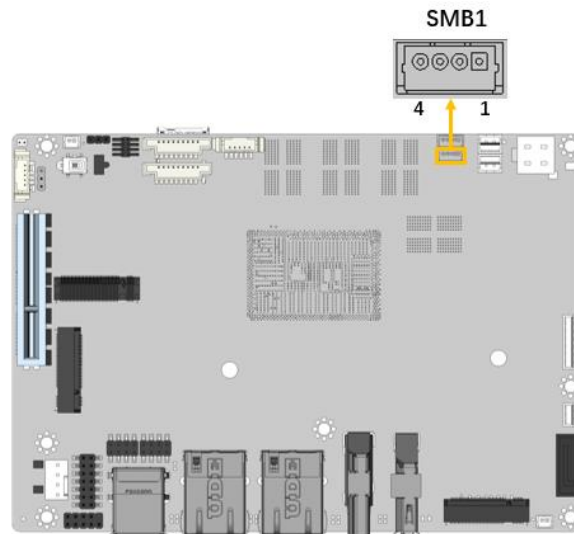

Figure 3-19: SMBus Connector Location
- CN Location:** See **Figure 3-19**